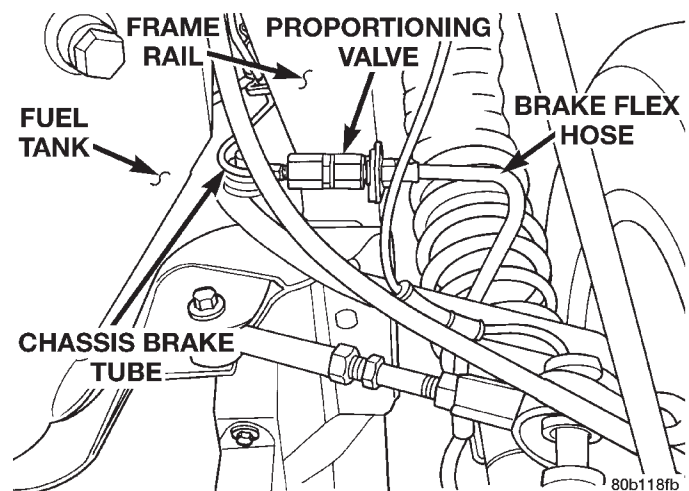

Fig. 37 Proportioning Valve Location
(1) Remove chassis brake (Fig. 37) from proportioning valve controlling the rear wheel of the vehicle which has premature wheel skid.
- (2) Install brake tube on proportioning valve (Fig. 37). Tighten tube nuts to 17 N·m (145 in. lbs.) torque.
- (3) Bleed the affected brake line. See Bleeding Brake System in the Service Procedures section of the manual for proper bleeding procedure.